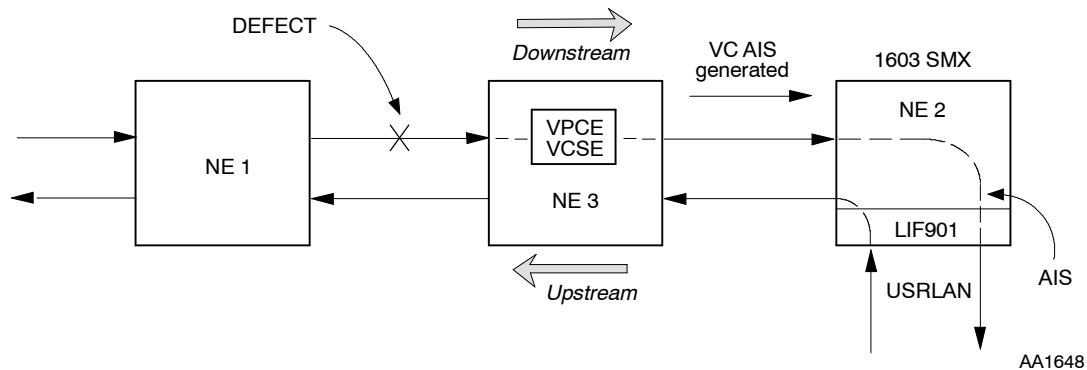

Figure 1. VC AIS Defect Flow
- 4 Start troubleshooting a VC AIS at the NE where the VP connection endpoint (VPCE) or VC segment endpoint (VCSE) is setup in the downstream direction of traffic. (See Figure 1.)